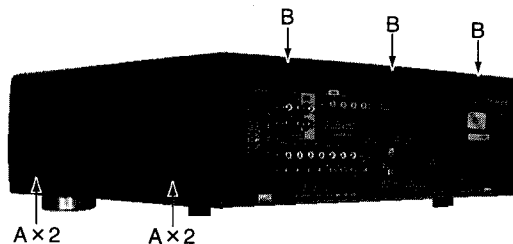

Fig.1
- 1.Remove 4 screws A on both sides of the top cover and 3 screws B on the rear side. (Fig.1)